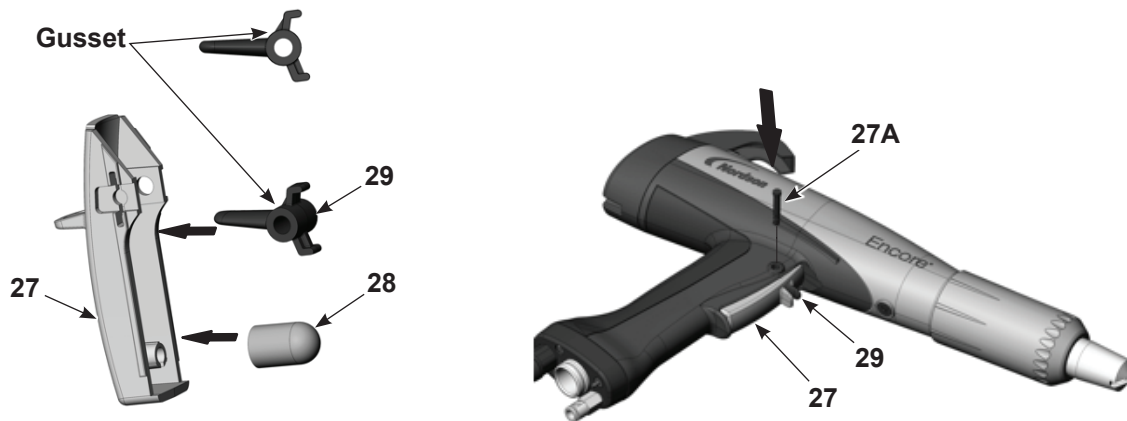

Figure 6-9 Reinstalling the Trigger and Axle
4. See Figure 6-9. Install the purge trigger (29) into the spray trigger (27) with the gusset oriented upward as shown. Do not install the purge trigger upside down.
5. Verify that the actuator (28) is installed over the post.